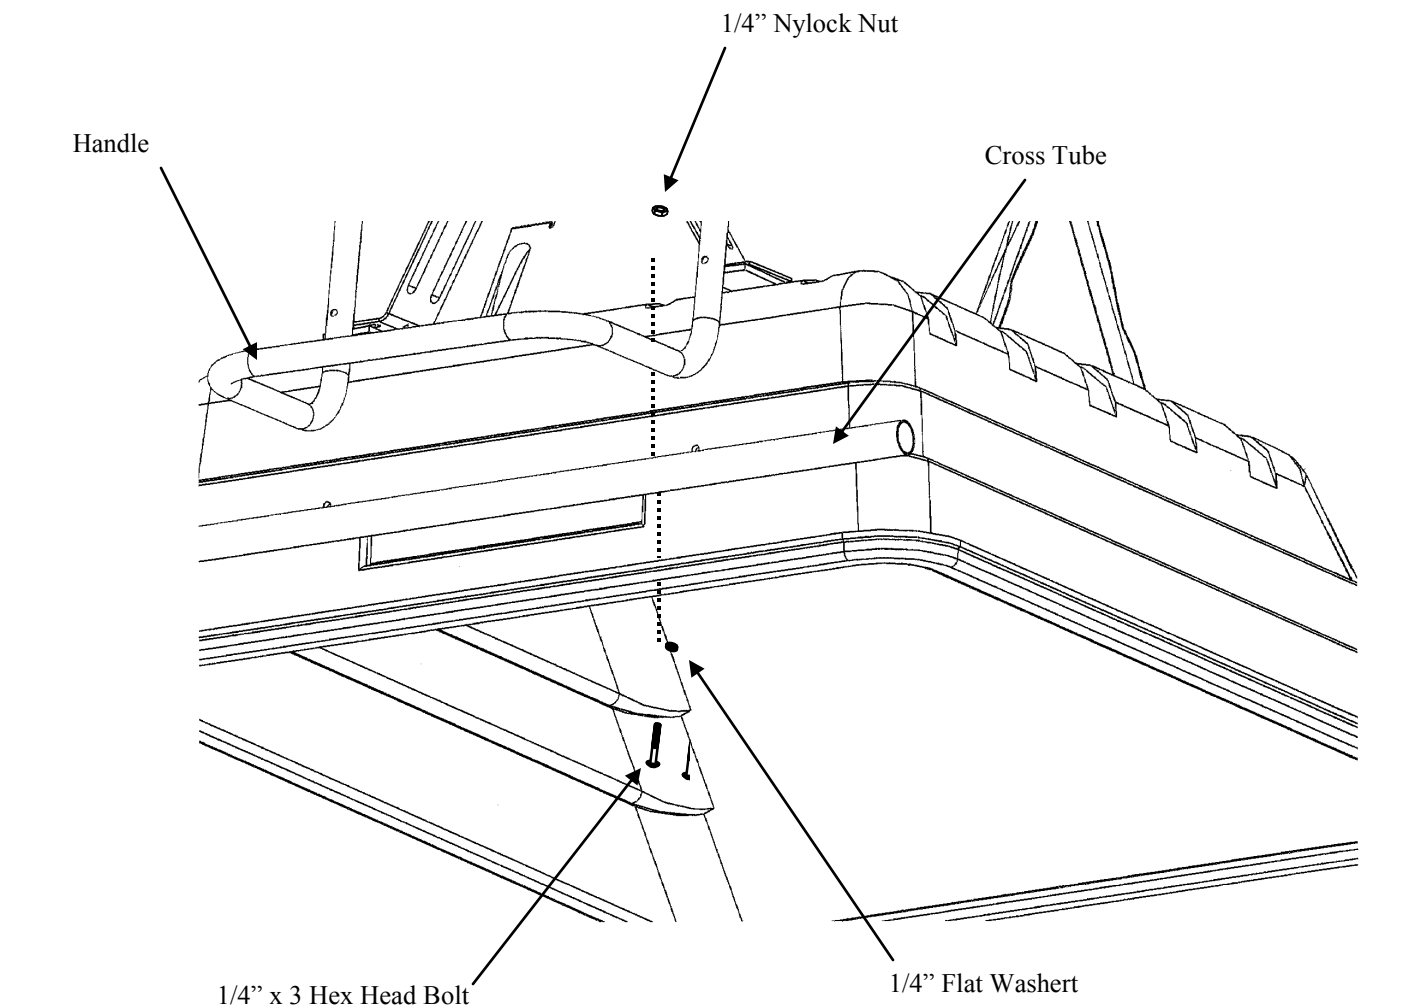

Figure 9
10. Insert a 1/4" x 3" Hex Head Bolt into 1/4" Flat Washer, into hole in the top of the body, through Cross Tube then insert bolts into Handle. Secure with a 1/4" Nylock Nut. See Figure 9.